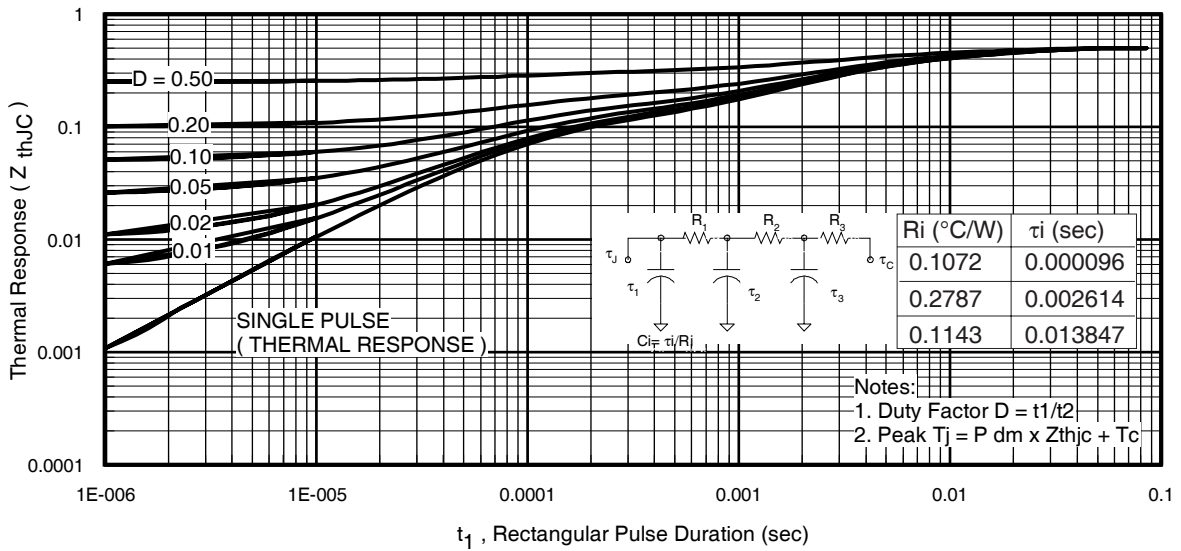

Fig 11. Maximum Effective Transient Thermal Impedance, Junction-to-Case
- ① Repetitive rating; pulse width limited by max. junction temperature. (See fig. 11).
- ② Limited by T_{Jmax} , starting $T_J = 25^\circ\text{C}$, $L = 0.026\text{mH}, R_G = 25\Omega, I_{AS} = 110A, V_{GS} = 10V$. Part not recommended for use above this value.
- ③ Pulse width $\leq 1.0\text{ms}$; duty cycle $\leq 2\%$.
- ④ $C_{oss\ eff.}$ is a fixed capacitance that gives the same charging time as C_{oss} while V_{DS} is rising from 0 to 80% V_{DSS} .
$Z_{thJC}(D, t_{av})$ = Transient thermal resistance, see figure 11)